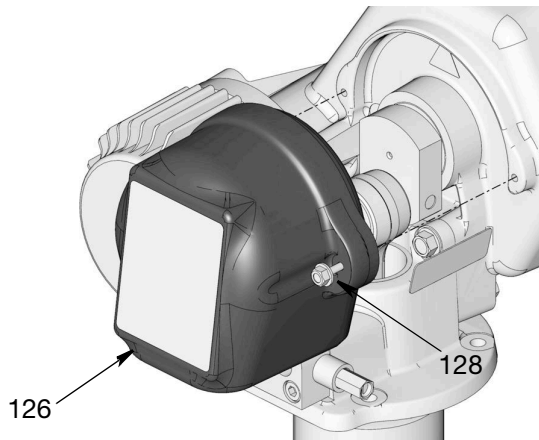

FIG. 10
- Check breather (J) vent for proper operation before filling reservoir.
- Open overflow port (H) before filling reservoir to visually inspect lubrication level.
- Do not fill reservoir beyond overflow port (H).
7. Reinstall the cover (126) using the bolts (128). Use a wrench to tighten bolts securely (FIG. 10).